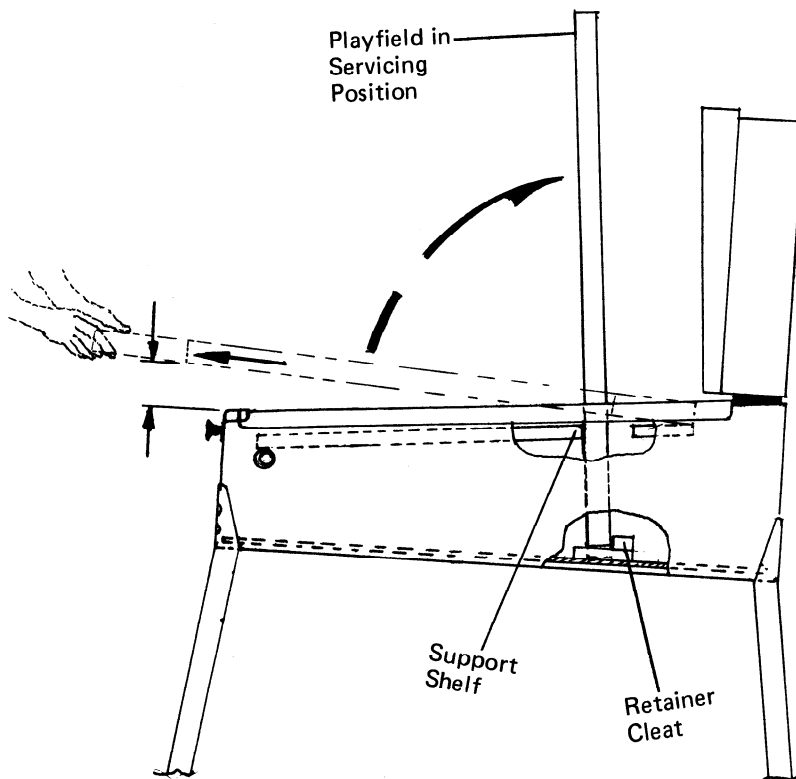

FIGURE 9
7. Carefully lift the player end of the playfield up and lower the rear edge into the lower cabinet (Figure 9). Be sure that the rear edge of playfield is resting against the retainer cleat as shown in Figure 9.
8. With playfield carefully lowered, lean playfield toward you so that front edge is resting against edge of support shelf as shown (Figure 9).